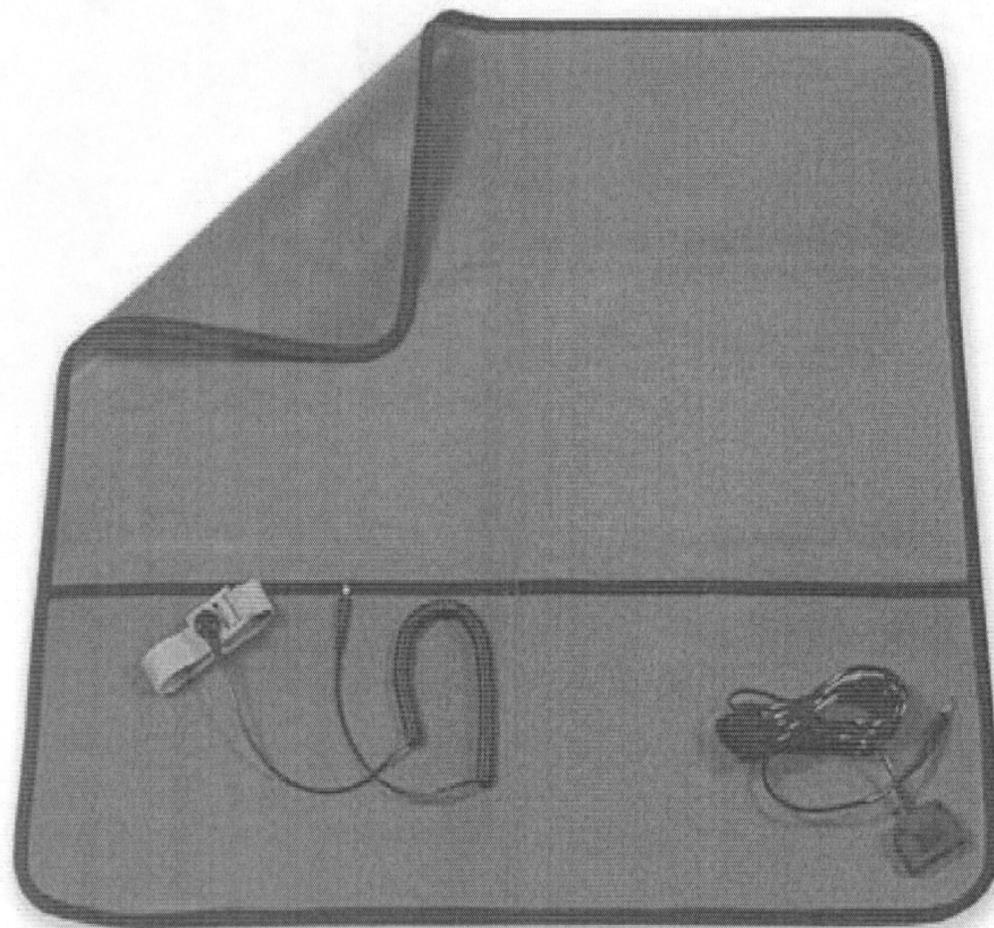

FIGURE 7. Typical ESD protective field service kit.
5.10 ESD field service kit. ESD protection is required where formal workstations are not practical (that is, remote locations such as shelters and vans). ESD control field service kits provide the next most effective means of preventing ESD damage. Their primary use is in support of personnel who remove ESDS items from service or who place them in operation during which time items are outside of prescribed packaging. Kits are available which allow protection for ESDS items at the ultimate user level (see appendix A). Figure 7 reflects a typical kit as described in Appendix A. It is noted that these static dissipative mats with accessories are not a substitute for a complete ESD protective workstation. The kit is a field expedient and contains only the minimum requirements for ESD-control. This supplemental handling procedure for repair type ESDS items is the only interim technique where the reuse of ESD preservation material is encouraged.